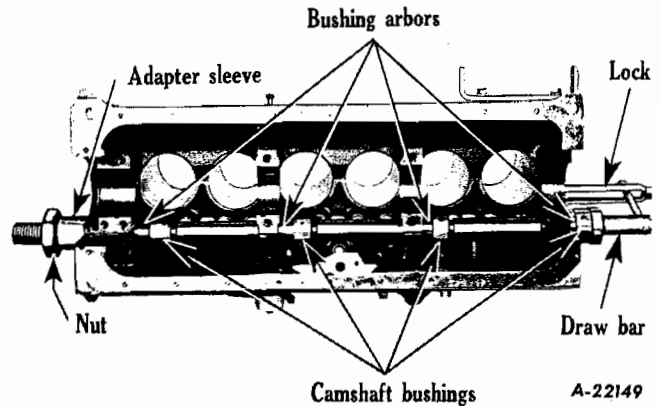

Fig. 52 - SE-1724 Camshaft bushing installation. Showing tool in position.
1. If camshaft bearing replacement is necessary, remove and install new bushings with special camshaft bearing installation tool (Fig. 52). No reaming is required.